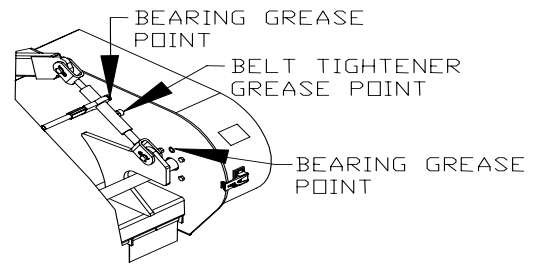

Figure 1
1. Outer rotor bearings (2) and belt tightener, are serviced by using the greasezerks protruding thru the inside of the end plates (figure 1).